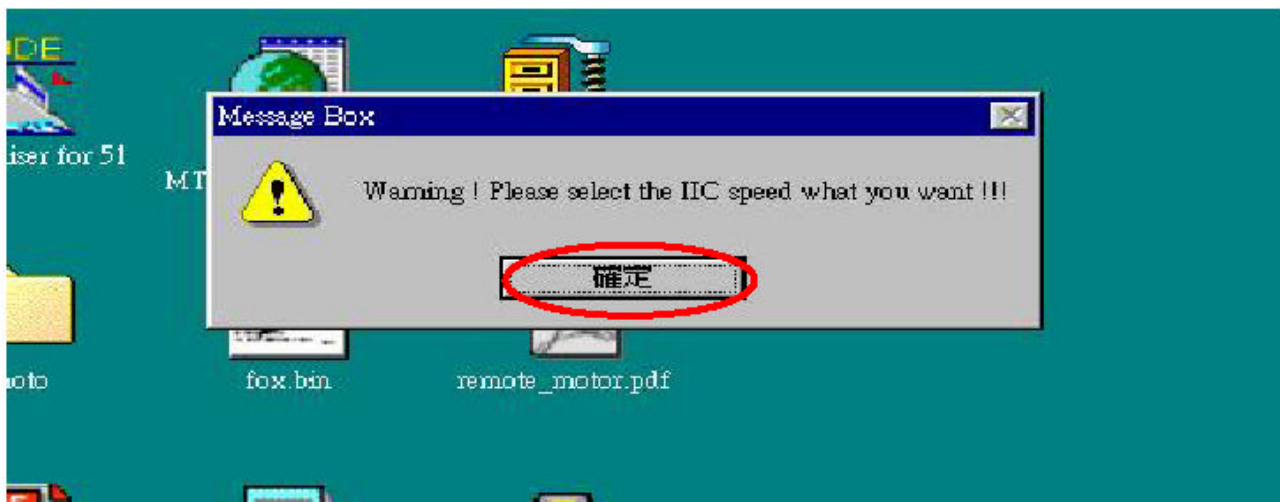

Fig 2.3
- 8.3 The warning shown in Fig. 2.3 is used to remind the user that a CPU rate that differs from IIC protocol may cause the ISP functions to fail; press the "OK" button.